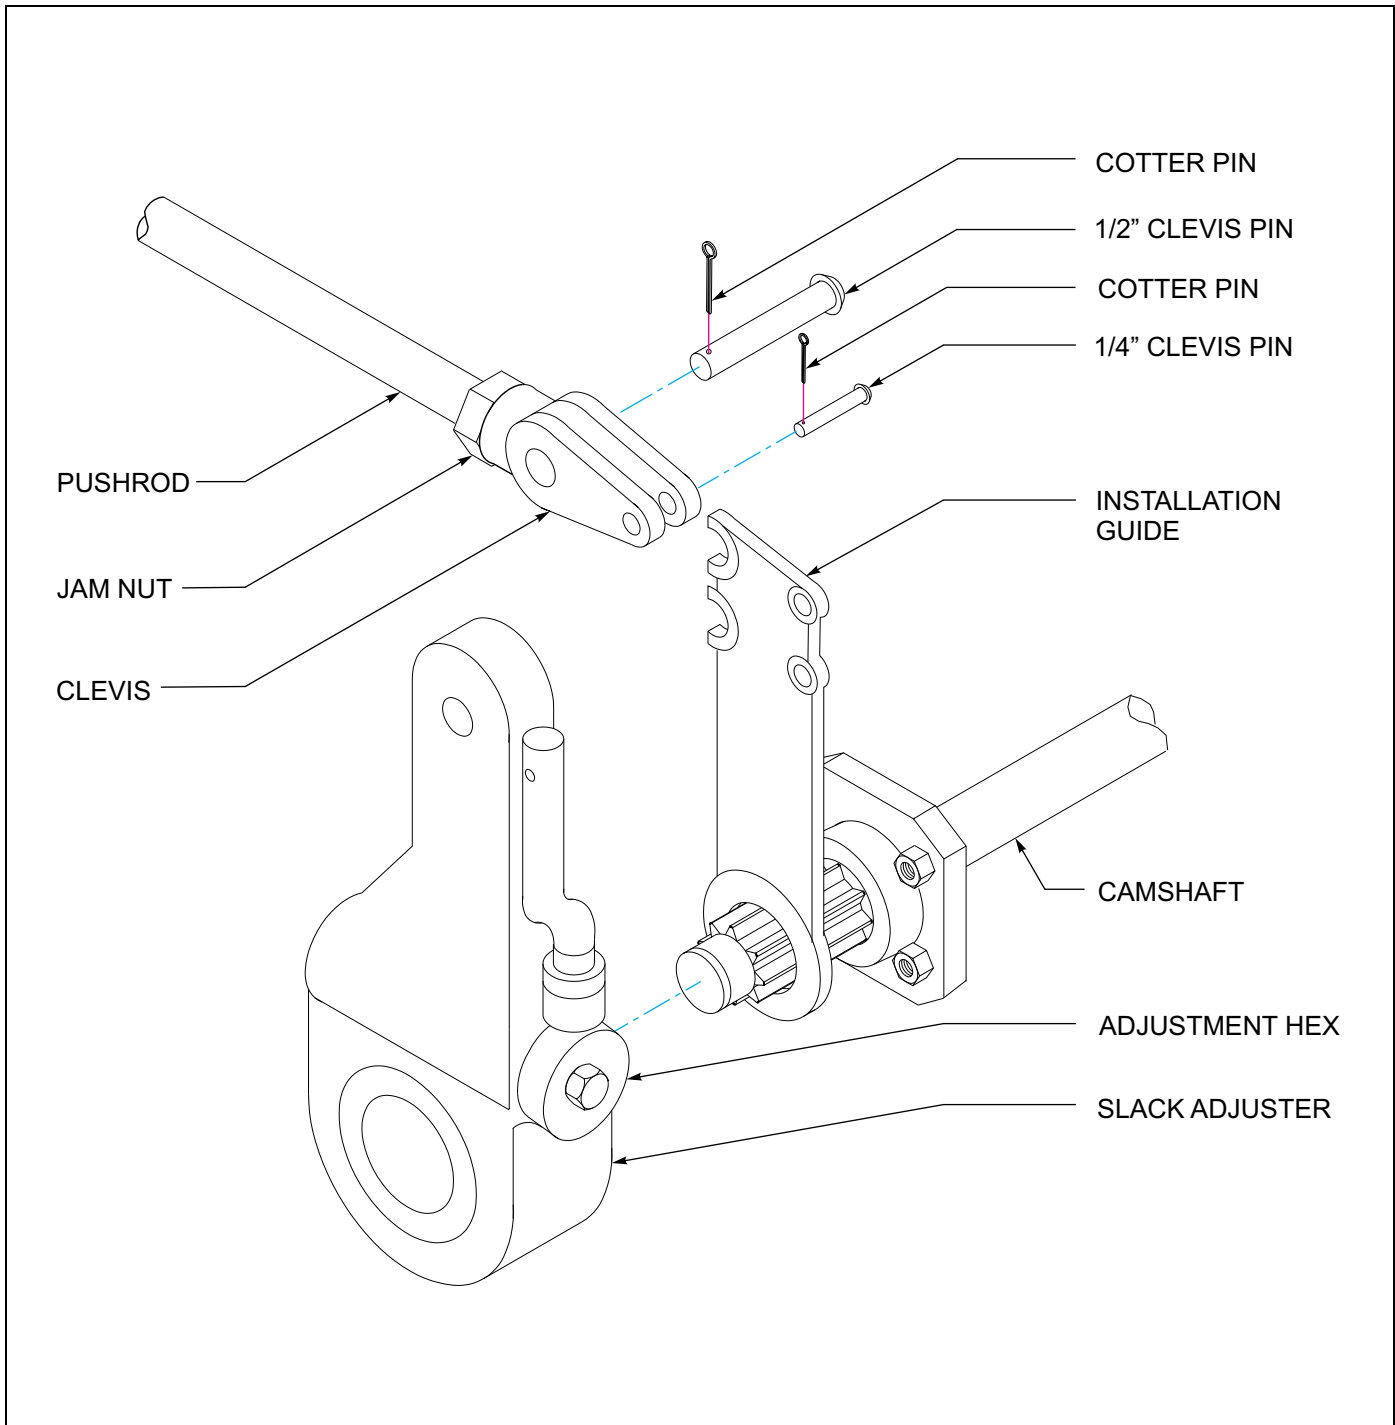

Figure 4-12: Slack Adjuster
4. Disconnect the slack adjuster from the connecting rod by removing the clevis pin (See Figure 4-12.)
4. Remount the brake chamber on the axle brackets and reconnect the air service hoses and the slack adjuster connecting rod (See Figure 4-12.)
2. Check that the push rod is fully retracted, apply air to release spring brake (**See Figure 4-12.**)
3. Remove the existing slack adjuster and clevis - **DO NOT REMOVE EXISTING JAM NUT (See Figure 4-12.)**